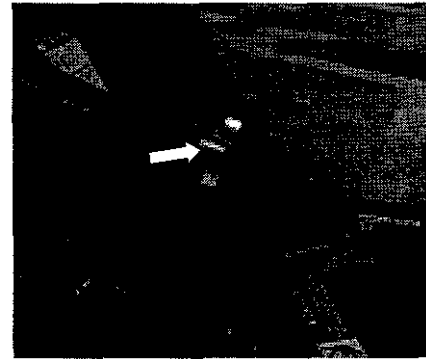

figure 26
5. Adjust brush contact area with the brush adjustment knob (figure 26). To make the path wider, lower the brush head assembly by turning the knob to the left (counterclockwise). To create a narrower path, raise the brush head assembly by turning the knob to the right (clockwise).